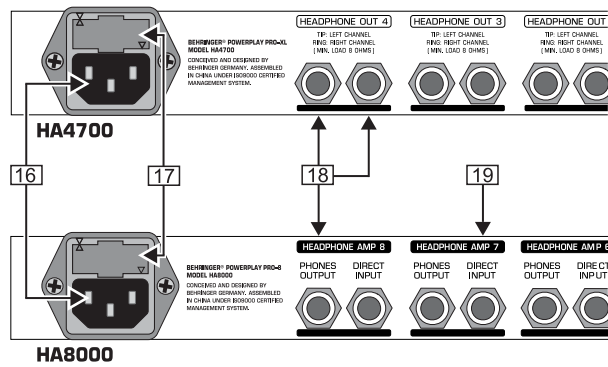

Fig. 2.3: Mains supply, fuses compartment and headphone outputs
**1** The *DIRECT IN* socket is used to feed in additional stereo signals. In the case of the HA4700, the signal brought in via the *DIRECT IN* input has the same priority as the *MAIN* signal. The HA8000 has a separate *DIRECT INPUT* connector for each channel **19** (see fig. 2.3). In the case of this model, the *MAIN* signal being fed in is automatically interrupted when the said input is in use.